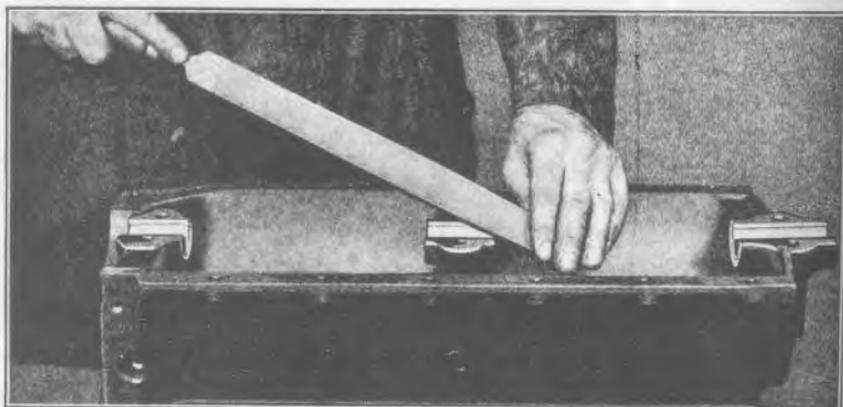

Fig. 154
- 236 After the bearings have been bored to size, the edges should be dressed off with a file at a 45° angle (See Fig. 154) and the ends of the babbitt bearings filed flush with the casting. The surfaces on